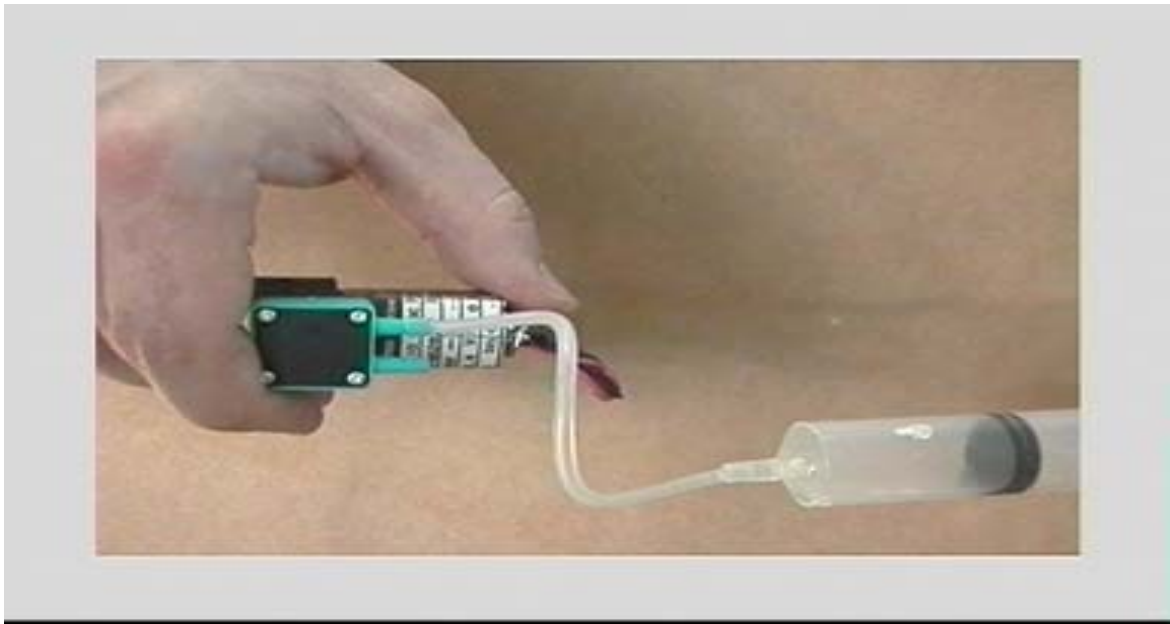

Fig. 80
- Insert a small amount of liquid using a syringe from the disconnected ends in order to wet the membranes (Fig. 80).